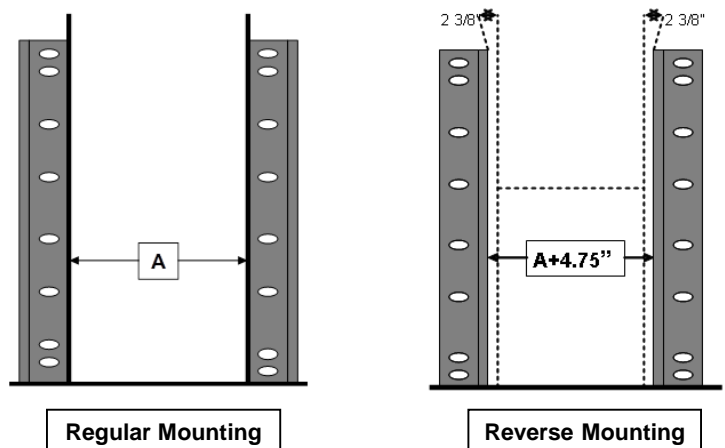

Figure 3. Regular and reverse mounting of Mounting Rails.
All four mounting rails are identical and may be reversed. If door jamb or wall conditions restrict you from installing the mounting rails as indicated, flip the rail around and attach them so that the short leg is facing away from the door opening and flush to the wall. Snap a new plumb line $2\frac{1}{4}$ " to the outside of the initial line. The mounting rails should end up $4\frac{1}{2}$ " plus door opening width apart (**SEE FIGURE 3**).
2. Align the short leg of Mounting Rails with the door jamb so the distance apart matches the "A" dimension on the approval drawing. If you cannot locate this measurement in the included paperwork, please call DL Manufacturing. If reverse mounting is required (**SEE FIGURE 3**).